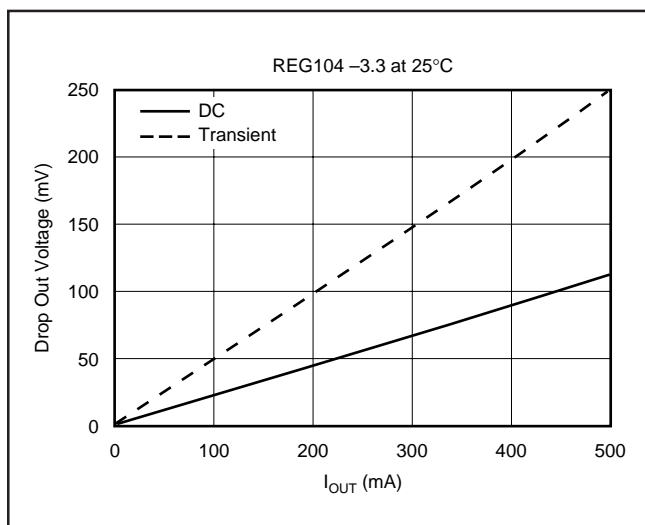

FIGURE 8. Transient and DC Dropout.
The REG104 uses an N-channel DMOS as the *pass* element. When the input voltage is within a few hundred millivolts of the output voltage, the DMOS device behaves like a resistor. Therefore, for low values of V_{IN} to V_{OUT} , the regulator's input-to-output resistance is the $R_{DS(ON)}$ of the DMOS pass element (typically 230m Ω). For static (DC) loads, the REG104 will typically maintain regulation down to V_{IN} to V_{OUT} voltage drop of 230mV at full rated output current. In Figure 8, the bottom line (DC dropout) shows the minimum V_{IN} to V_{OUT} voltage drop required to prevent dropout under DC load conditions.
For large step changes in load current, the REG104 requires a larger voltage drop across it to avoid degraded transient response. The boundary of this *transient dropout* region is shown as the top line in Figure 8. Values of V_{IN} to V_{OUT} voltage drop above this line insure normal transient response.